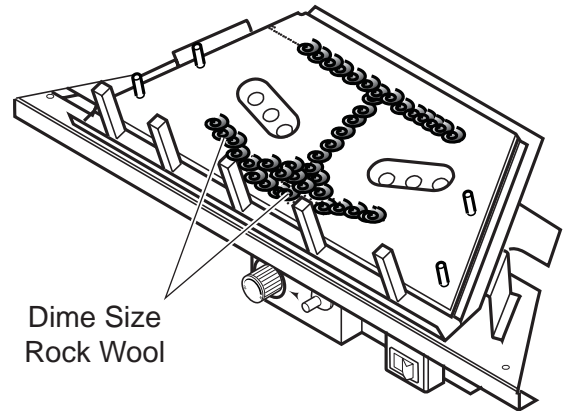

Figure 40 - Rockwool Installation (DFX24C and DFX32C)
6. Turn the gas control knob counterclockwise  to the IGN position. See *Figure 40*. Push in and hold control knob for 5 seconds.